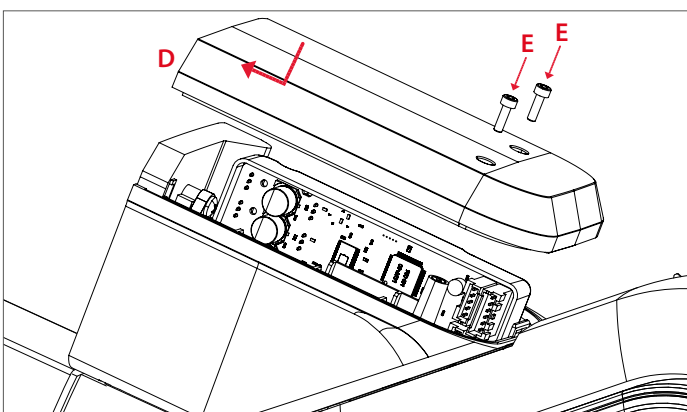

Figure 4.28 Assembly of docking station top cover
4. Close the docking station by inserting the top cover [D] and using two M3 x 8 fasteners [E] (Fig. 4.28).